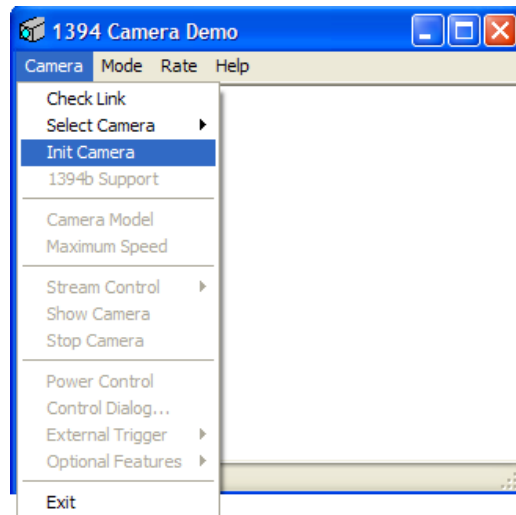

Figure 3.5
- e. Initialize the camera: **Camera**→**Init Camera (Figure 3.5)**.